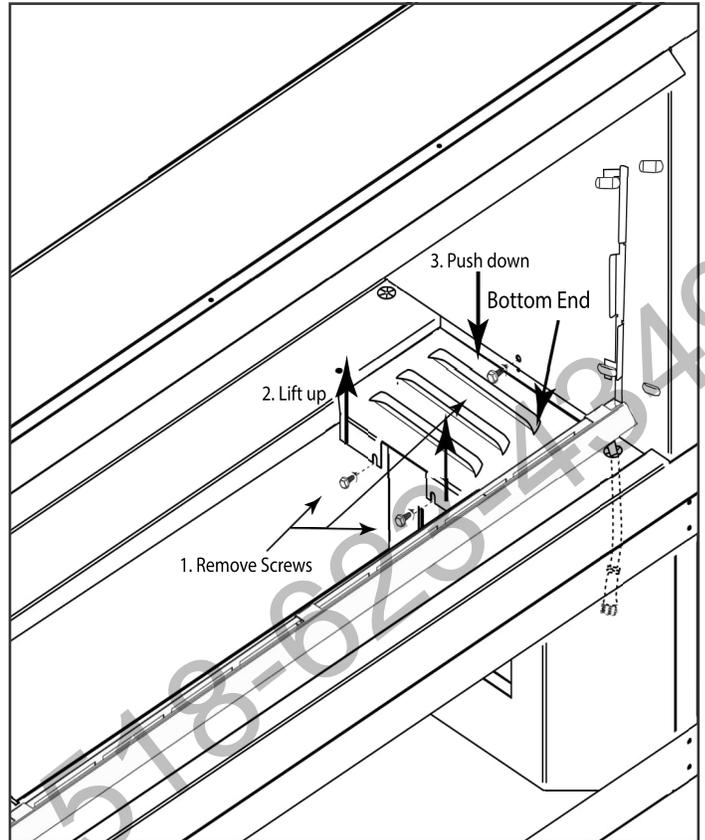
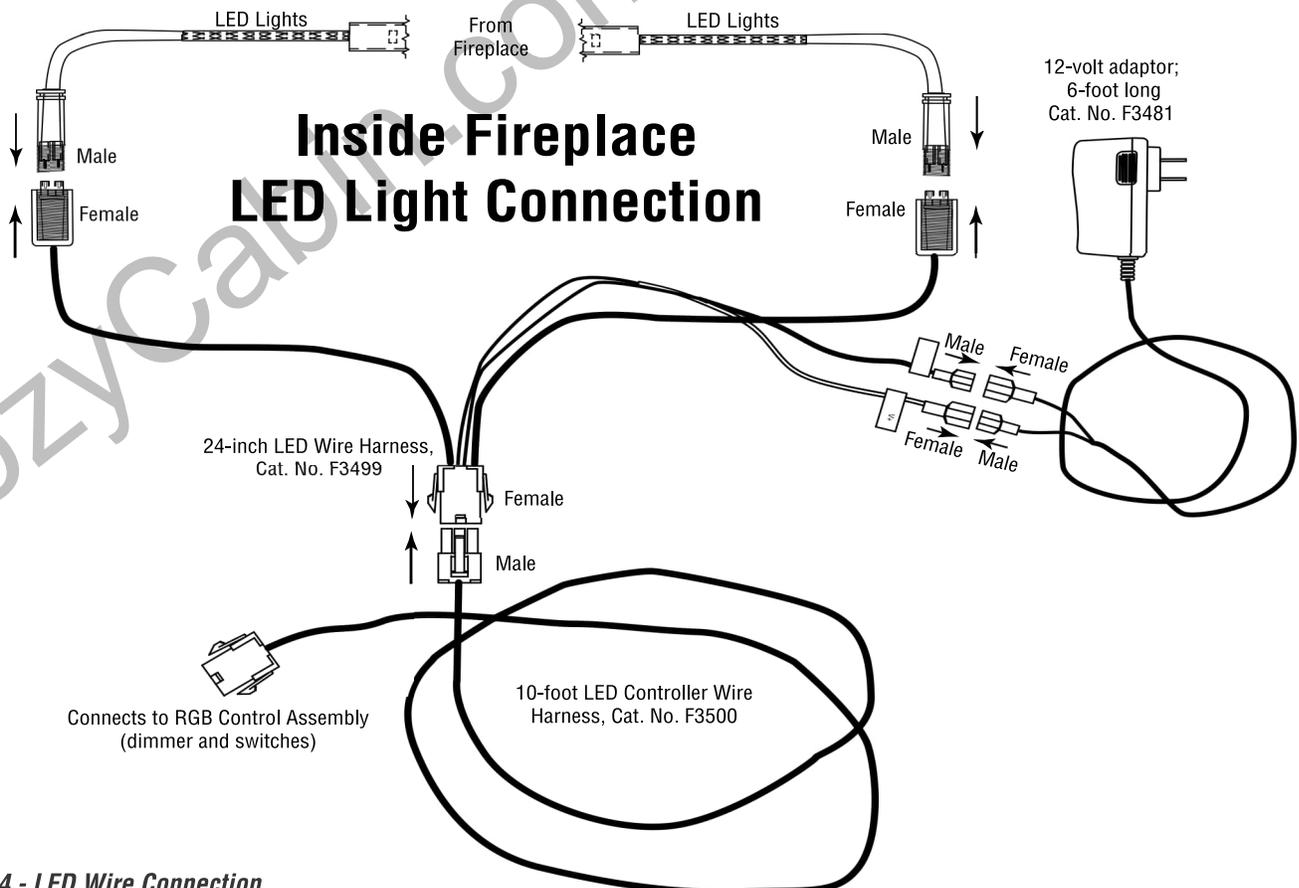

Figure 23 - Removing bottom end
Figure 24 - LED Wire Connection
Step 7: If needed, remove the screws from the “bottom end” of the burner pan area to provide additional room for wiring the LED lights. The “bottom end” fills the space between the burner pan and the fireplace side panel. It is held into place with three (3) screws. See Figure 23. First remove the two inside screws, then the screw securing the side wall. Lift up the area where the two screws were and push down where the single screw was, then lift the bottom end out of the fireplace.
Step 8: Using Figure 23 below, insert the LED channel assembly female connector part, Cat. No. F3499 (protruding through the wire grommets) to the LED male connector. The male end of the LED connector will only insert into the female connector in one direction. Once locked in position, screw the threaded cap of the female connector securely over the male connector. Note: If you are using one set of LED lights the other female connector Cat. No. F3499 will not be used. See Figure 24.
Step 9: Attach Cat. No. F3499 to F3500 using the molex connectors. After connecting the LED lights into the F3500 wire harness insert the 12-volt adapter 77102 with 1/4” terminals) into the (red & black wires) of LED wireharness. Plug the 12-volt adapter into the 120VAC GFCI box with weather proof cover. See Figure 24, page 18.